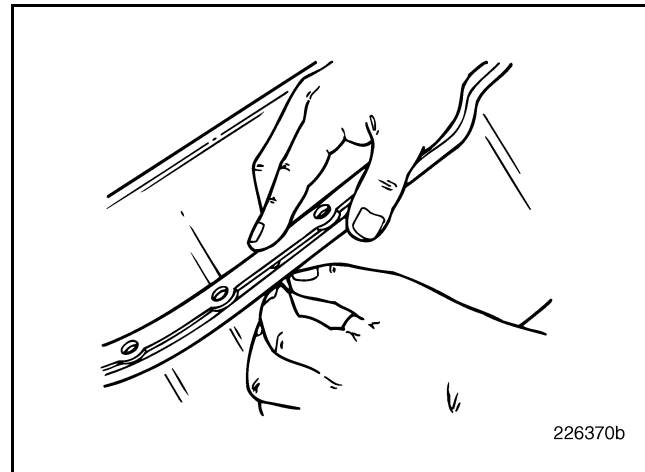

Figure 364 — Locating Cone Installation
- In one motion, firmly press down on the gasket with one hand while carefully pulling the rubber cone through the hole with the other hand until seated (Figure 364). Continue this procedure for the remaining locating cones.